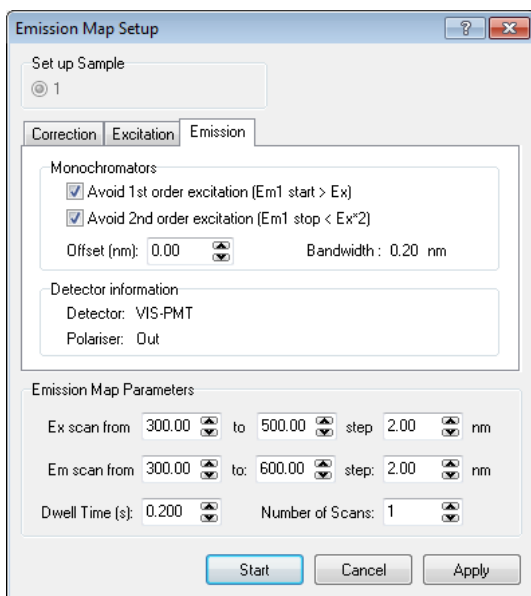

Figure 4-15: Emission Map Setup – Emission
6. Select the **Emission1** tab. If none of the boxes in this tab are ticked, the scanning will cover the full range as specified in the lower section of the dialogue box. However, this potentially means that the emission will scan across the excitation. (In the given example of Figure 4-15 this applies to the cross-over section between 300nm and 500nm.) For scattering samples the cross-scanning is not desirable, in this case tick the upper of the two boxes. If you also want to avoid to pick up the second order scatter, tick the lower box, too. Once a box is ticked you have the option to decide, how many nanometers away from the actual excitation wavelength the emission scan should start.